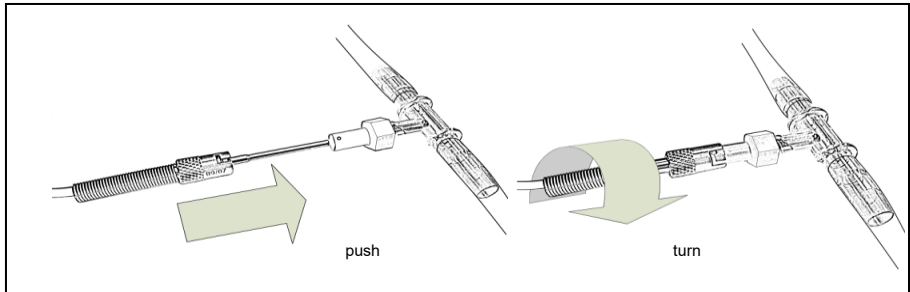

Figure 14 Connection of the temperature sensor to the disposable system
- Connect the T2 sensor (blue) to the perfusion line (Figure 14).